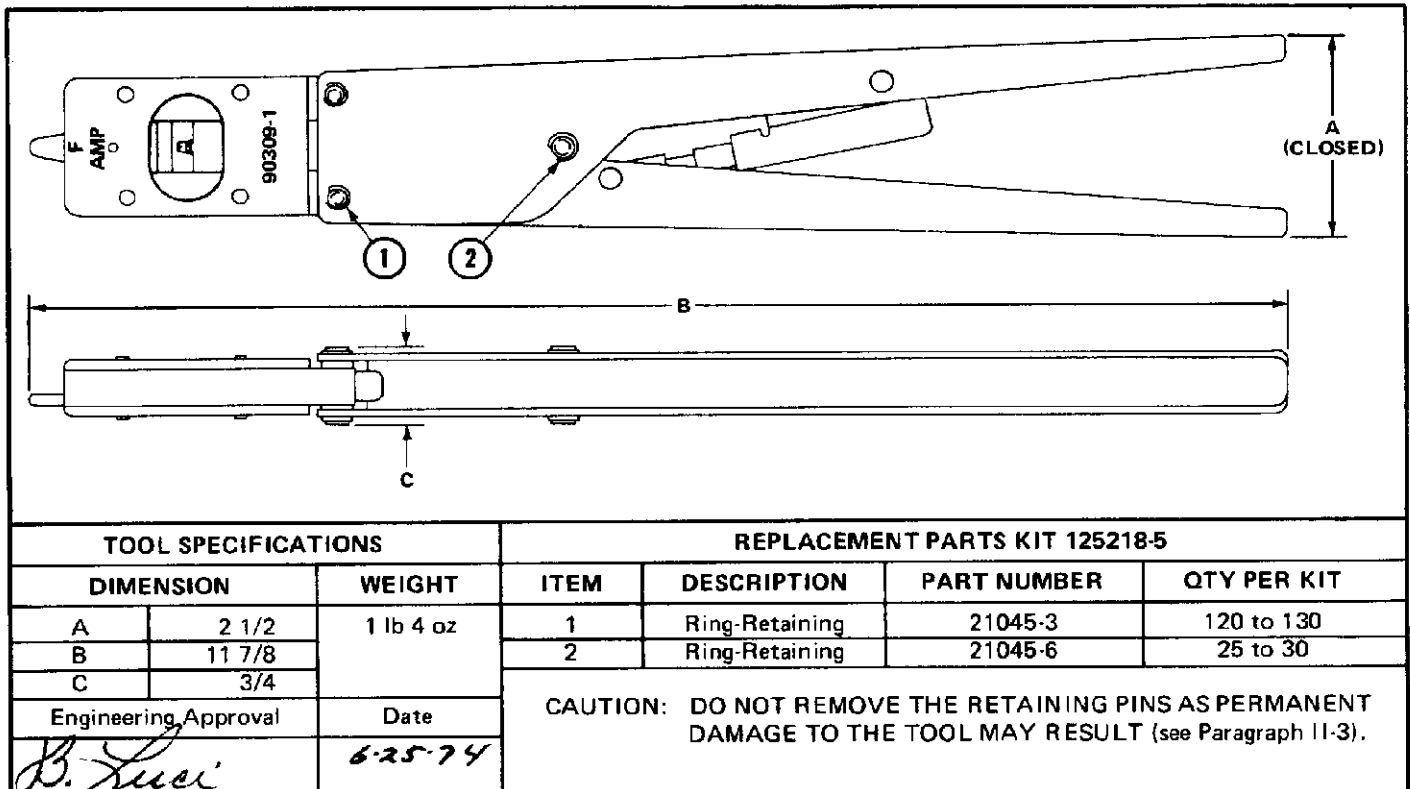

FIGURE II-1
The parts listed in Figure II-1 are customer replaceable parts. A complete inventory should be stocked and controlled to prevent lost time when replacement of parts is deemed necessary. When ordering, order the replacement parts kit listed in Figure II-1.
2. Make certain all retaining pins are in place, and secured with retaining rings. Refer to parts listed in Figure II-1, if replacements are necessary.
Parts other than those specified in Figure II-1 must be replaced by AMP to insure certification of the tool. When repair is necessary, return the tool with a written description of the problem to: